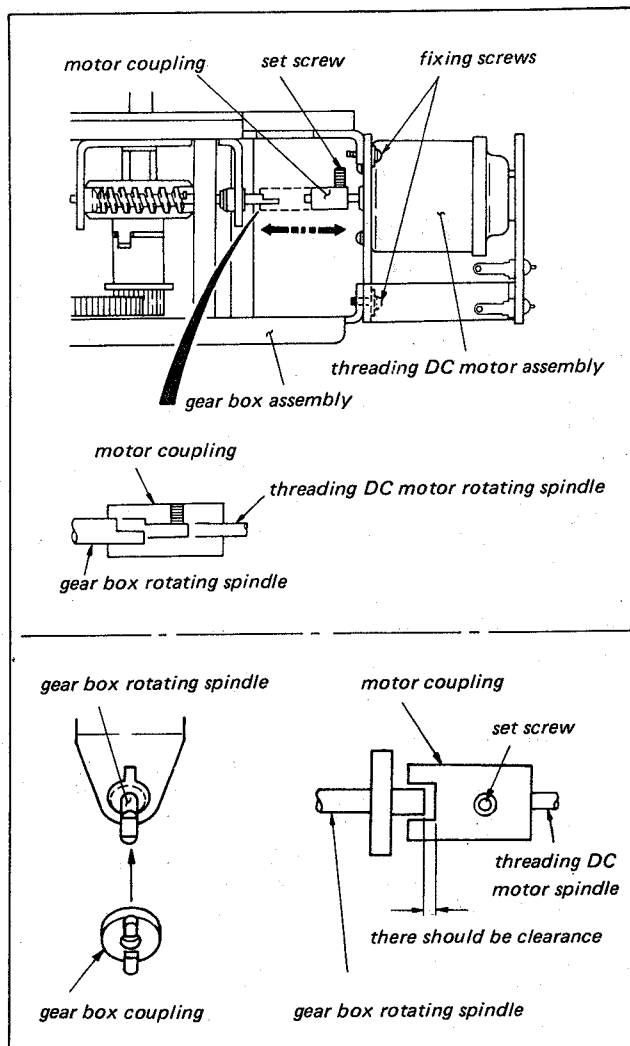

Fig. 3-4. Replacement of threading DC motor
1. Remove the Threading Motor Ass'y from the Gear Box Ass'y as shown in Fig. 3-4.
4. Adjust position of the threading motor assembly so that the motor coupling shown in Fig. 3-4 can go smoothly into the gear box rotating spindle. Tighten then screws.
5. Insert the gear box coupling into the gear box assembly rotating spindle in the direction as shown in Fig. 3-4. Push then the motor coupling towards the gear box coupling. Adjust then the clearance between both couplings as shown in Fig. 3-4, and tighten finally the set-screw.